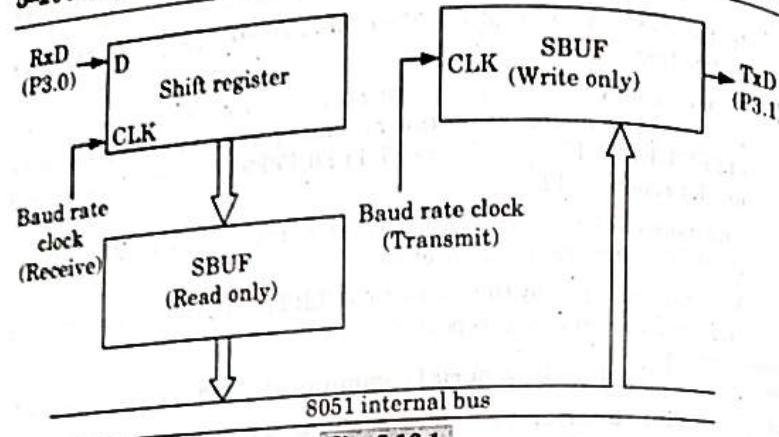

Fig. 5.16.1.
4. There are two separate and distinct register, the transmit write-only register, and the receive read-only register. This is shown in Fig. 5.16.1.